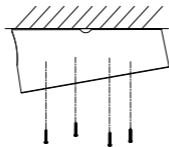

Figure 2. 11 Fix the Inclined Base
- Install the inclined base to the ceiling with supplied screws, as shown in Figure 2. 11.